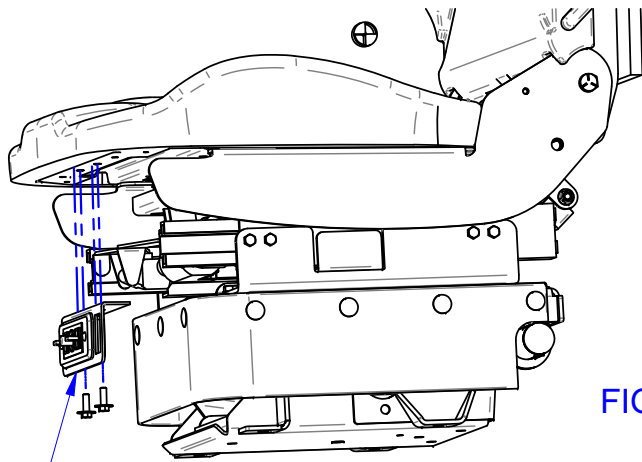

FIG. 1
4. REMOVE (2) SCREWS FROM FRONT SWITCH PANEL TO DETACH FROM UNDERNEATH CUSHION PAN. (FIG. 1)